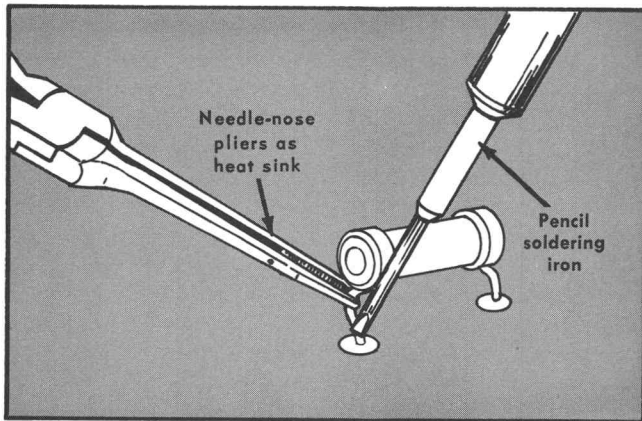

Fig. 4-1. Use of a heat sink to protect components during soldering.
4. Touch the iron to the connection and apply a small amount of solder to make a firm solder joint; do not apply too much solder. To protect heat-sensitive components, hold the lead between the component body and the solder joint with a pair of long-nose pliers (see Fig. 4-1) or other heat sink.